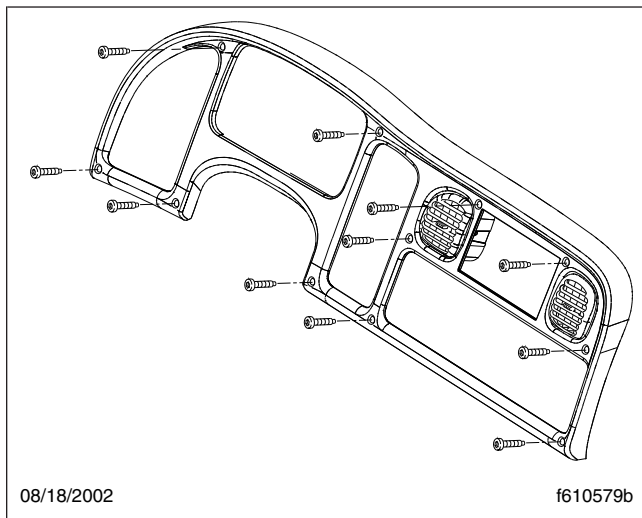

Fig. 2, Dash Trim Piece
7. Remove the dash trim piece by removing the eleven screws that secure it to the dash. All fasteners for this procedure are 10–16 Torx® capscrews. See Fig. 2.